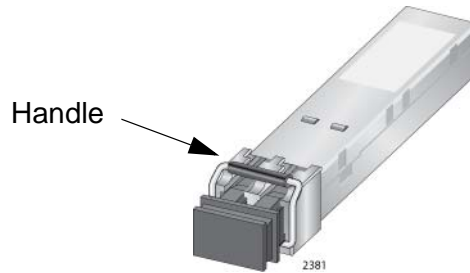

Figure 95. Handle on SFP+ Transceiver
2. Orient the SFP+ transceiver with the handle on top, as shown in Figure 95.